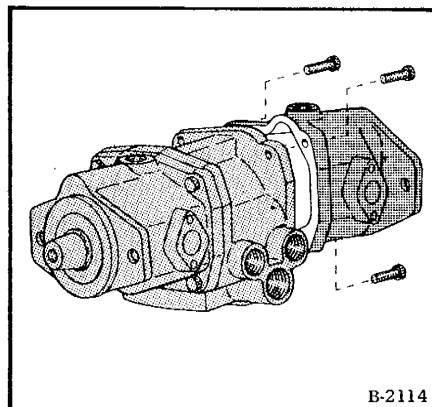

Fig. 3-17 Separating Pump From Motor
- (1) **Valve Plate:** Remove the four bolts. Carefully separate motor or pump from plate (Fig. 3-17).